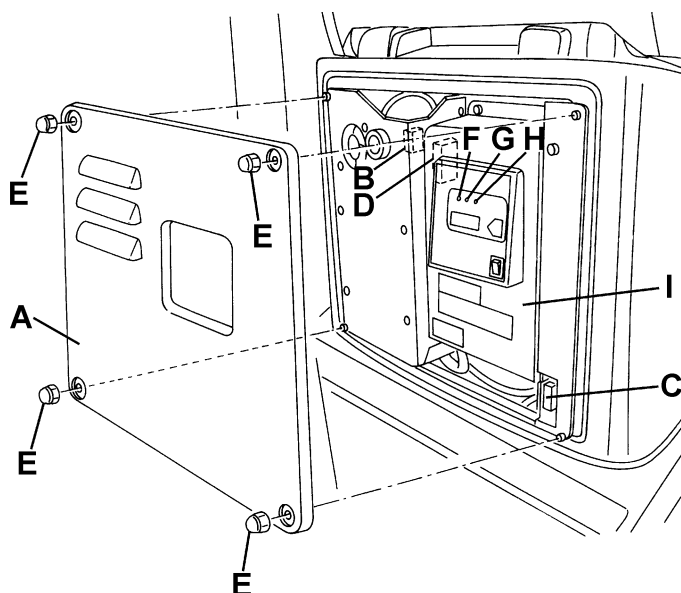

Figure 7
If the red warning light (F, Fig. 7) on the battery charger control panel stays on, the battery charger is charging the batteries.
1. Turn the ignition key (42) to "0".
2. Remove the nuts (E, Fig. 7), then remove the cover (A).